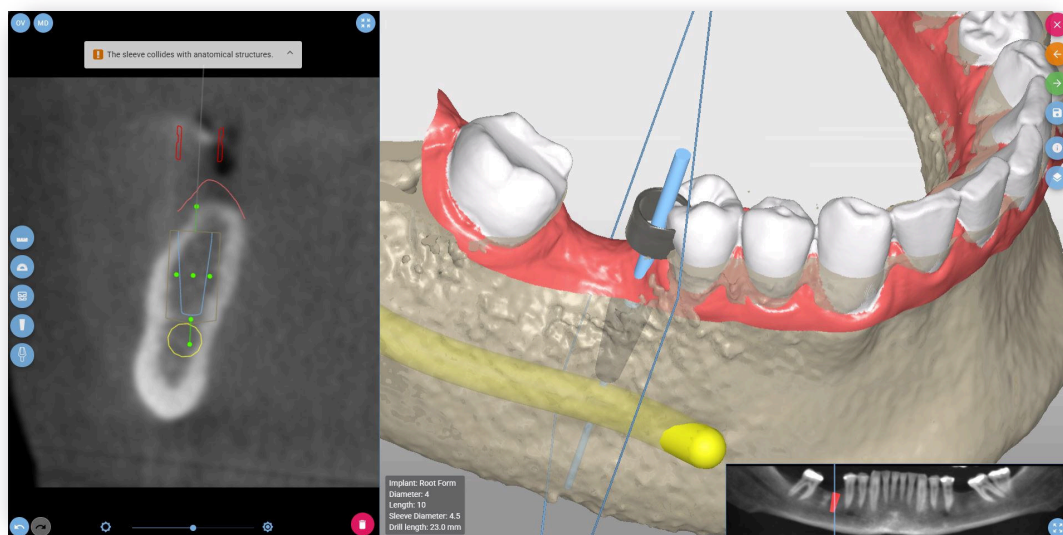

Figure 47: The sleeve collides with anatomical structures.
- The sleeve collides with anatomical structures (Figure 47).